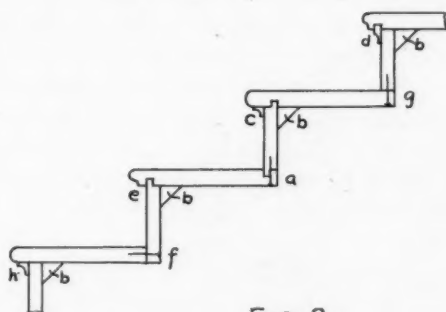

FIG. 3
There are several methods of joining the risers and treads. In Fig. 3 are shown the various methods
of doing this. Some are considered better than others, but that is much a matter of opinion. At (A) in Fig. 3 is shown how the risers come down upon the tread and the tongue on the front side of the riser fits into a groove in the tread. If the fit is not good there will be a crack in front of the riser, which will become more apparent as the stair becomes older. At (G) is another method. This is the very way when there is a rough string in under the middle of the stair. At (F) is a similar arrangement except that the riser goes down behind the tread. All of these joints should be nailed or fastened with wood screws.
At (E) and (D), Fig. 3, are shown two ways of joining the tread and riser at the nosing. They are